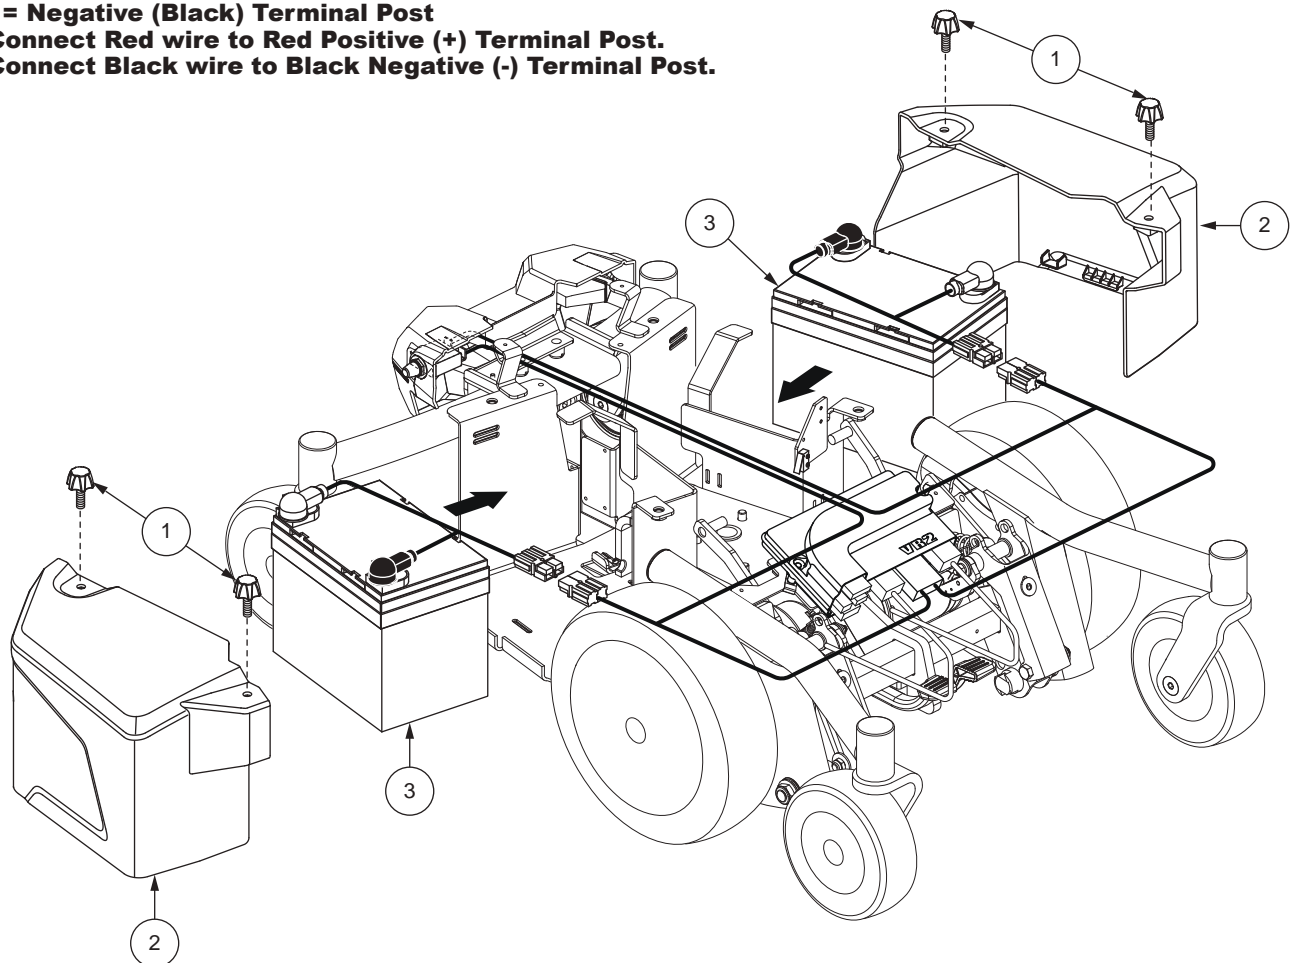

Figure 17. Battery Installation (Seat Removed for Clarity)
4. Loosen the thumbscrews on the sides of the power base and remove the side covers. **See figure 17.**
5. Disconnect the battery harnesses from the power base. **See figure 17.**
7. Remove the battery harnesses from the old batteries and install them onto the new batteries. Make sure that the hardware is facing the correct direction. **See figure 17.**
8. Place the batteries into the power base. Make sure that the terminals are facing the sides of the power base. **See figure 17.**